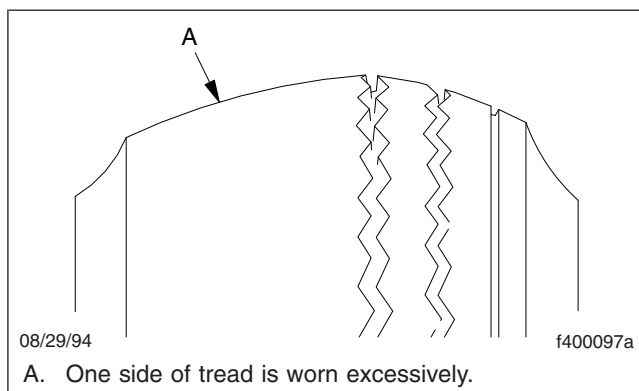

Fig. 10, Tire Wear Due to Excessive Camber
1. Camber is the vertical tilt of the wheel as viewed from the front of the vehicle. Camber angle is measured in degrees, and is not adjustable. Negative camber is the top of the wheels tilted inwards. Front tires wearing on the inboard side may be due to excessive negative camber. See Fig. 10.